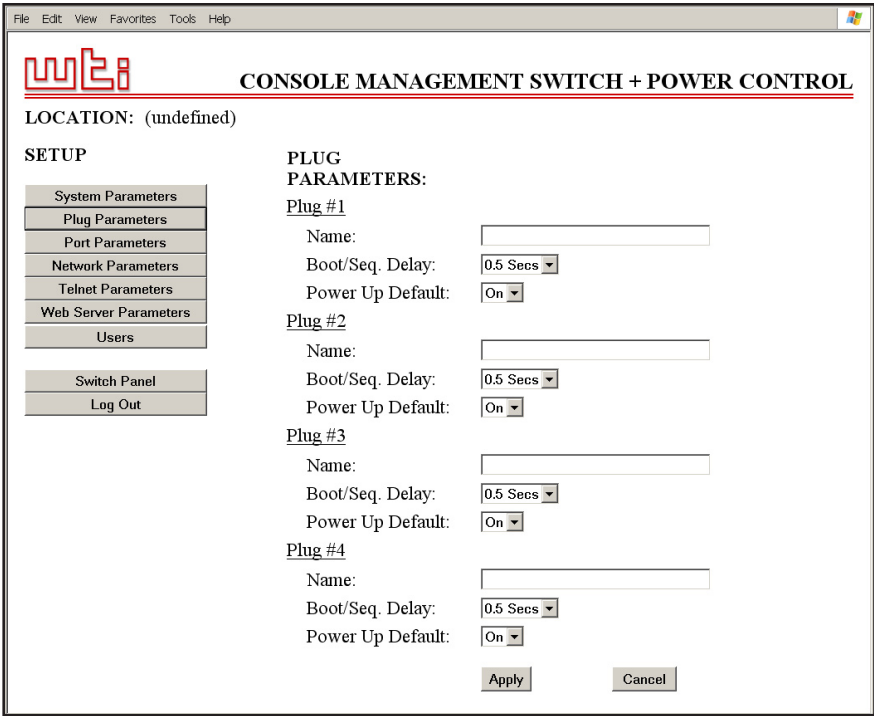

Figure 5.17: Plug Parameters Menu - Web Browser Interface
- **Web Browser Interface:** Click the "Setup" button to access the configuration menus, then click the "Plug Parameters" button. The Plug Parameters Menu will be displayed as shown in Figure 5.17.